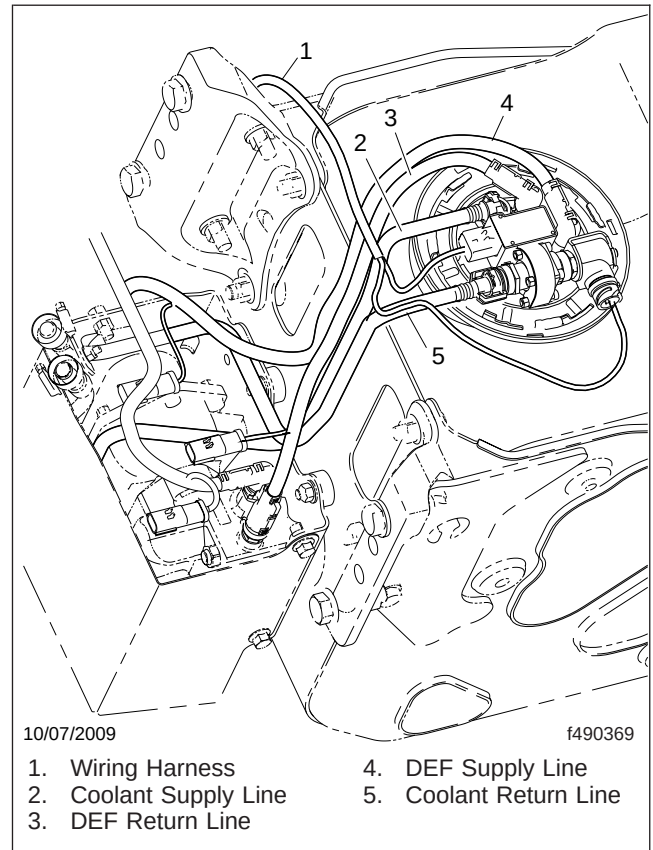

Fig. 1, DEF Pump Line Connections
5. Disconnect the DEF lines between the DEF pump and the tank. See Fig. 1.